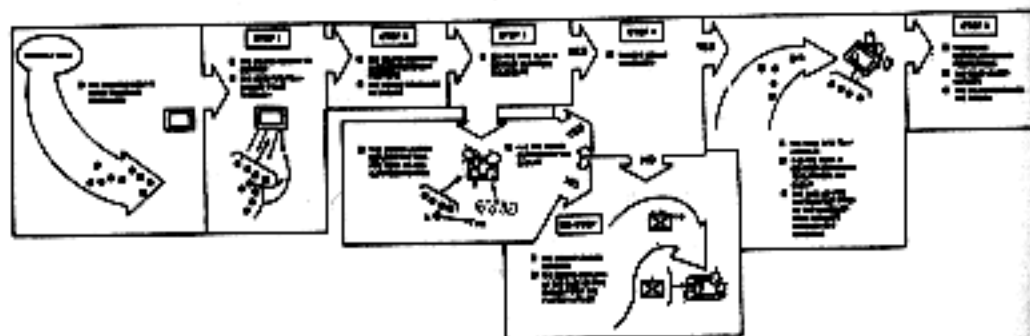

Figure 6-1. Platoon attack.
REQUIRED ACTIONS: (Figure 6-1.)
(5) In the assault, the squad leader determines the way in which he will move the elements of his squad based on the volume and accuracy of enemy fire against his squad and the amount of cover afforded by the terrain. (Figure 6-1) In all cases, each soldier uses individual movement techniques as appropriate.